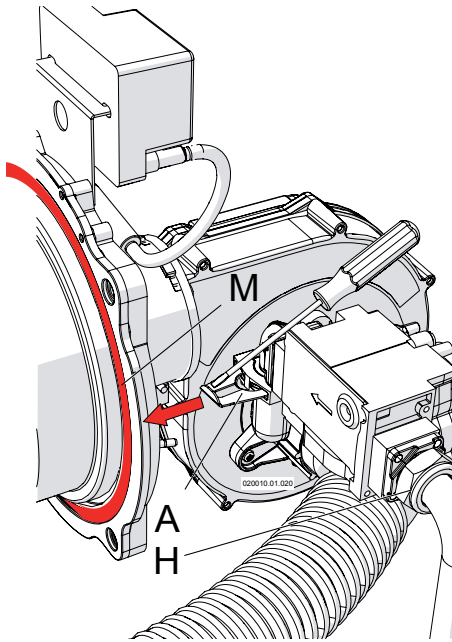
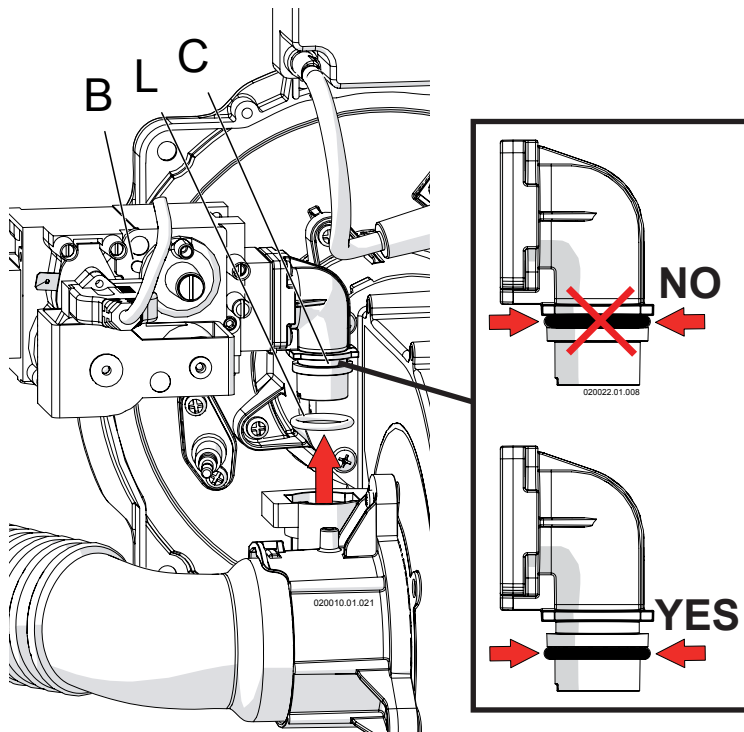

Figure 13-3 Dismantle the gas valve
Figure 13-4 Lift the gas valve
- 4 - Unscrew nut “H” as per Figure 13-3;
- 5 - With the help of a screwdriver, remove spring “A” (see Figure 13-3);
- 6 - Remove the gas valve from its site “C” as per Figure 13-4 (take care attention to o-ring “L” of Figure 13-4);
- 8 - Reinstall the gas valve, paying close attention to the o-ring “L” of Figure 13-4 and to the gasket between gas valve and nut “H” of Figure 13-3;
- 9 - Insert again the spring “A” of Figure 13-3;
- 10 - Right nut “H” of Figure 13-3;
- 12 - Check for any gas leaks on nut “H” of Figure 13-3;